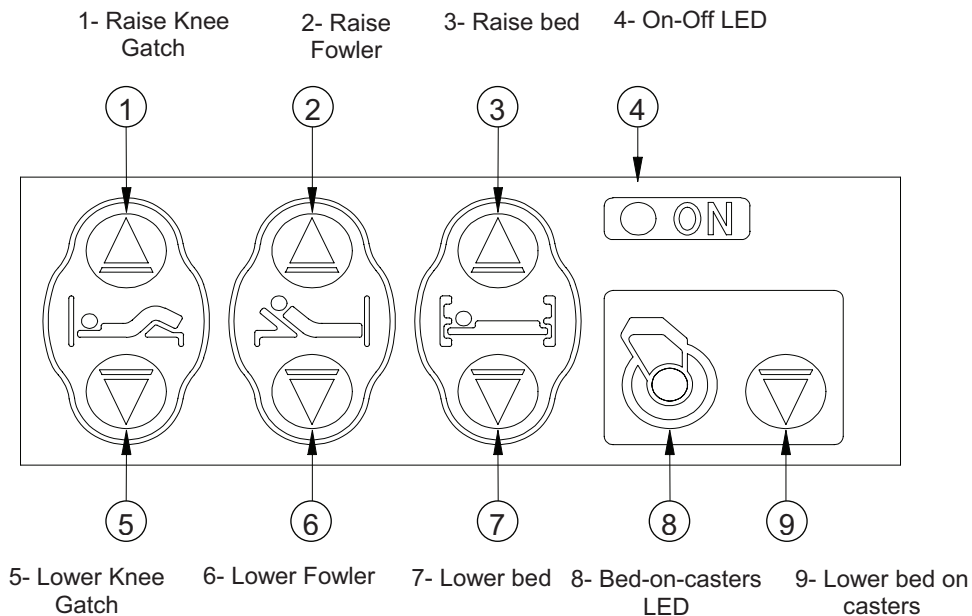

Figure 2.1B
- _____ Place the power connector main switch (Q, fig. 1.10) to the ON position and turn on the On/Off switch (B, fig. 1.10). The green LED (4, fig. 2.1B and 2.1C).
Plug the bed in a hospital grade plug, turn the main switch of the power connector On and turn the On/Off switch (A) on. The green LED (4, fig. 2.1B and 2.1C below and next page) will go on.
When the On/Off switch is turned off, all electric commands are inoperative but the circuit board is still powered to keep the bed-on-casters LED (8, fig. 2.1B, below) active. The LED will remain lit as long as the bed is resting on its casters as a reminder that the bed is unstable. However, it will not be the case if the main switch is turned off or a power failure occurs.
Refer to figure 2.1B, for the function of the keys not described below.
1. Lower the bed to its intermediate height using the lower-the-bed switch (fig. 2.1B). The bed lowering movement automatically stops when the intermediate height is reached.
2. Then, press the bed-on-casters key (fig. 2.1B) to bring the bed onto its casters. Ensure the legs are clear from the ground by pressing the key until the legs are completely raised. As soon as the bed rests on its casters, the bed-on-casters LED (8, fig. 2.1B) goes on and will remain lit as long as the bed will rest on its casters. When the bed is brought back onto its legs, the LED goes off.
3. Once moved, bring the bed back onto its legs using the raise-bed switch (fig. 2.1B).